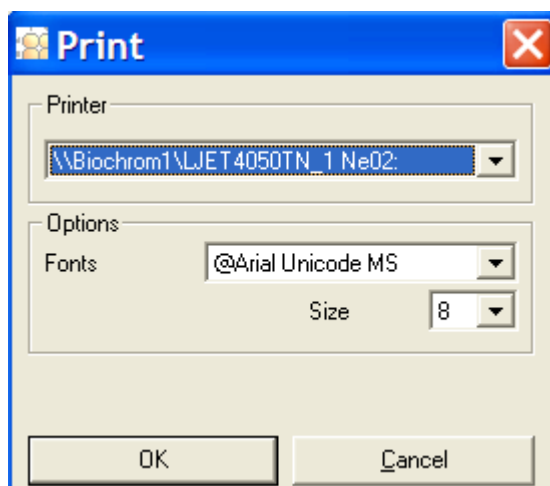

Figure 7-24: Print
1. Choose **Print Graph**. Print appears (Figure 7-24).